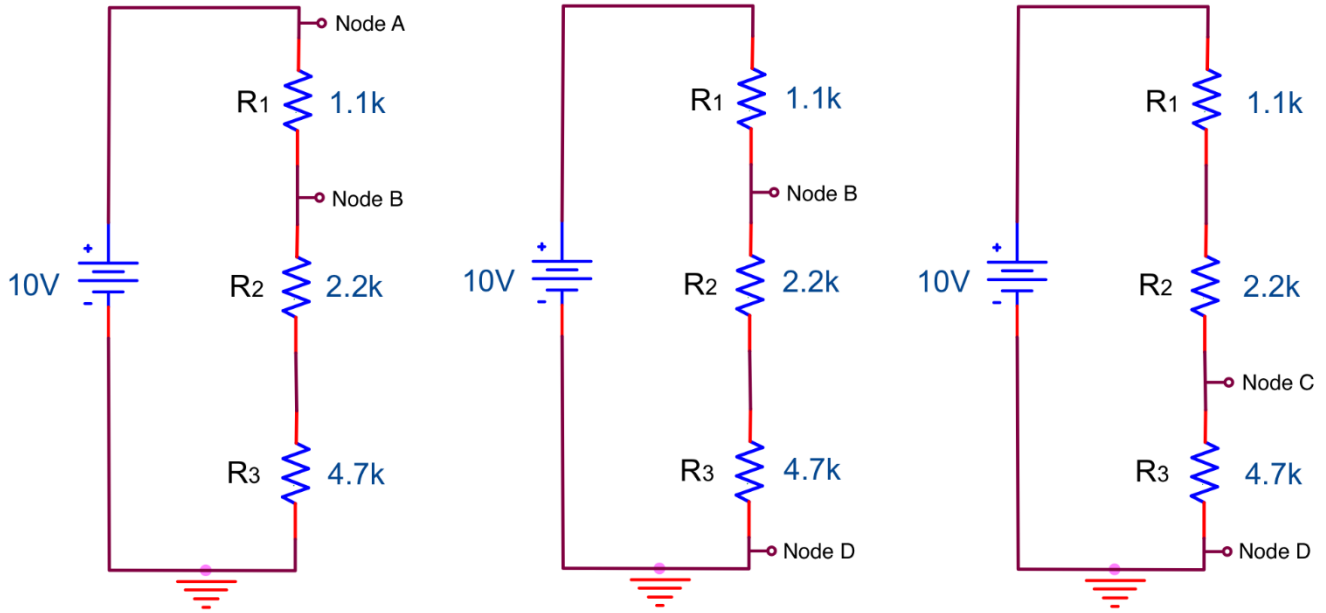

Figure 5.4
1. Calculate the voltage drop across at the nodes listed below for each diagram in Figure 5.4 using voltage division.